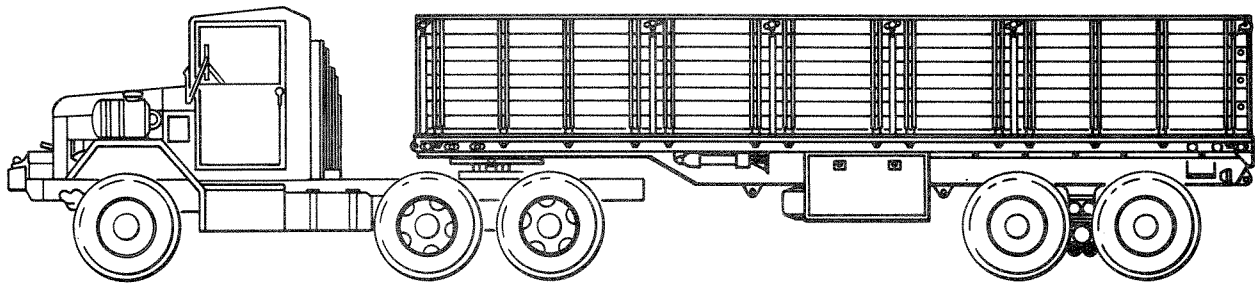

Figure 2-17. M818, M931, and M932 Tractors/M871 Trailer
a. *M818, M931, and M932 Tractors/M871 Trailer.* The M818, M931, and M932 tractors are 5-ton, 6x6, diesel-powered tow trucks. They tow the 22-ton M871 trailer, BCC, CAS van, SCTS, electrical repair shop, mechanical repair shop, supply and packaging/preservation shop, and repair parts shop. The M871 trailer carries PII missile sections in their containers. For more information on the M931 and M932 tractors, see TM 9-2320-272-10. For more information on the M871 trailer, see TM 9-2330-358-14&P. For more information on the M818 tractor, see TM 9-2320-260-10-1. Figure 2-17 shows the M818, M931, and M932 tractors/M871 trailer.